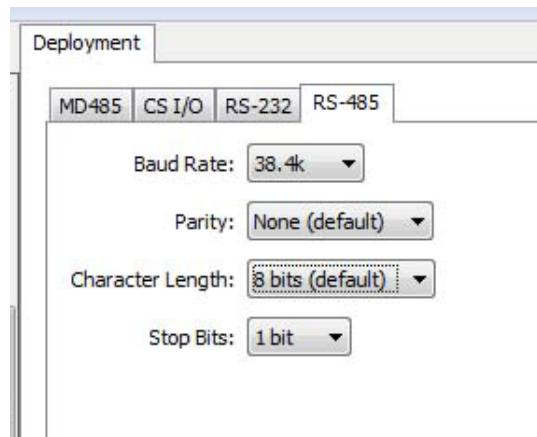

FIGURE 8-10. MD485 RS-485 tab
6. Click the **RS-485** tab. Set **Baud Rate** to 38.4 kbps. Set **Parity** to *None*. Set **Character Length** to *8 bits*. Set **Stop Bits** to *1 bit* (FIGURE 8-10).